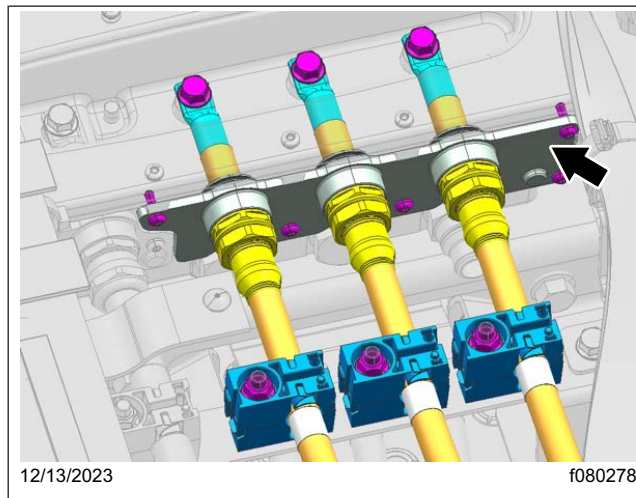

Fig. 8, Location of the Adapter Plate
16. Pull the cables out from the rear of the inverters. See **Fig. 8**